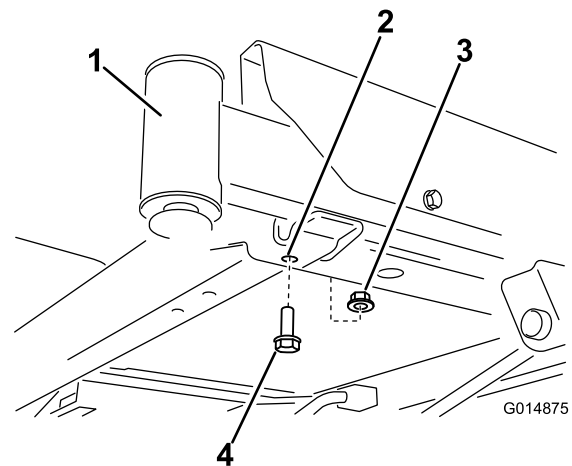
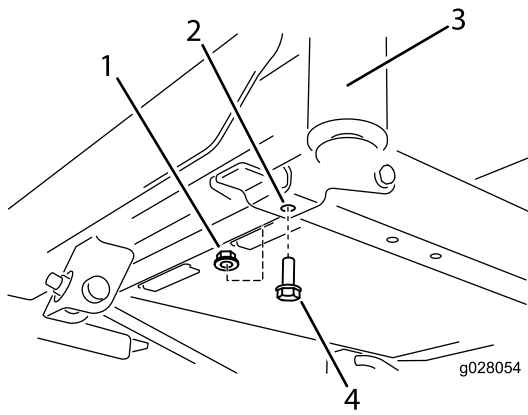

Figure 1
Figure 2
2. Locate the forward bolts on the underside of the frame (Figure 1 and Figure 2). Remove the 2 bolts (3/8 x 1 inch) and 2 locknuts (3/8 inch). Retain the locknuts.